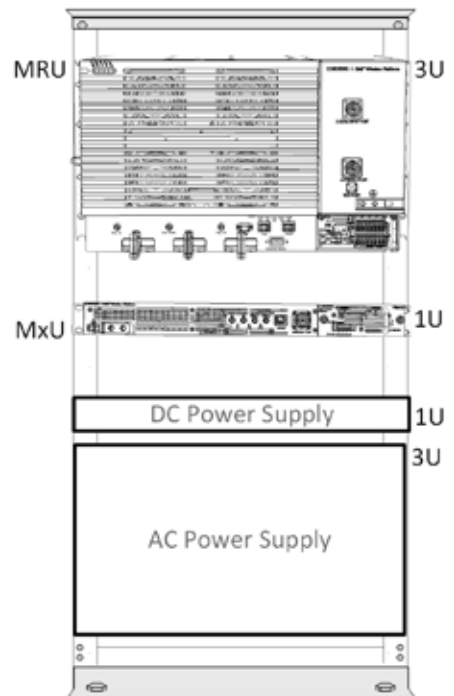

Figure 1. Example of Rack installation
**Step 1:** Determine the location of the MxU in the rack while considering additional units (e.g., MxU, power supply). Refer to Figure 1.